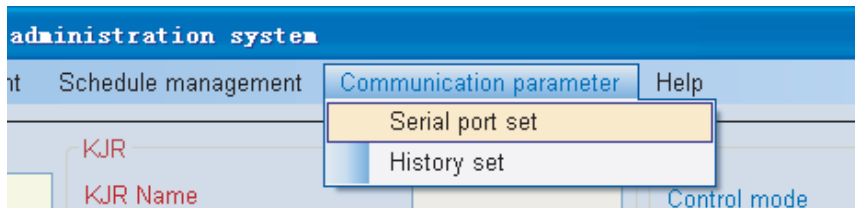

Fig.4-57
4) "Communication parameter" includes: "Serial port set" and "History set". See Fig.4-57